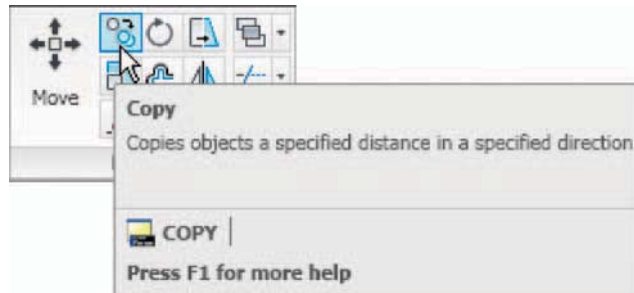

Fig. 5.4 The **Copy** tool from the **Home/Modify** panel
2. Call the **Copy** tool – either *left-click* on its tool icon in the **Home/Modify** panel (Fig. 5.4), *pick* **Copy** from the **Modify** toolbar, or *enter* **cp** or **copy** at the command line.